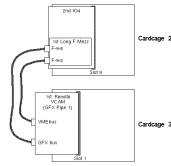
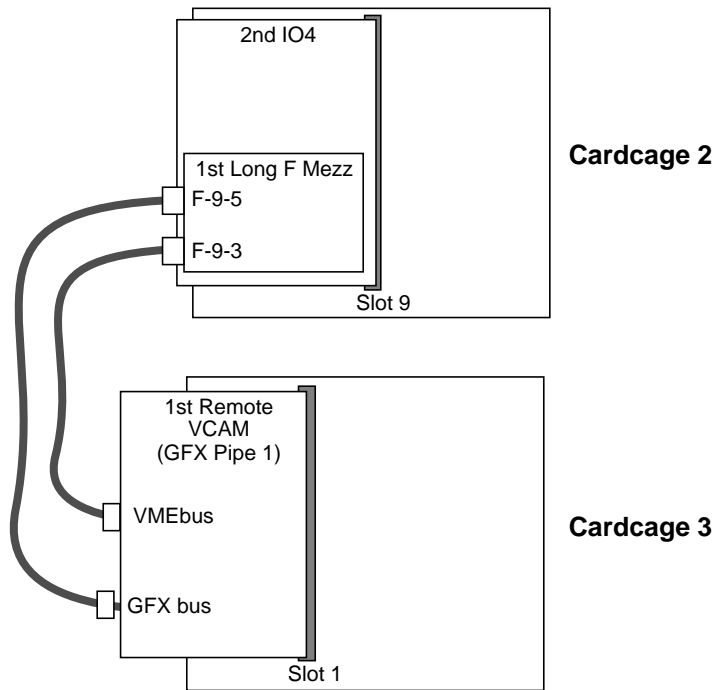

Figure 3-59 Cabling for a Single Graphics Pipe in Cardcage 3
Figure 3-60 Cabling for a Single Additional Graphics Pipe in Cardcage 3
3. Attach the silver mylar ribbon cable to the IO4 board connector as shown in Figure 3-59 or Figure 3-60 (depending on the type of F Mezz card installed). Route the cable from CC2 down through the cable port immediately behind the main I/O panel. Attach the remaining end of the cable to the upper connector on the Remote VCAM board.